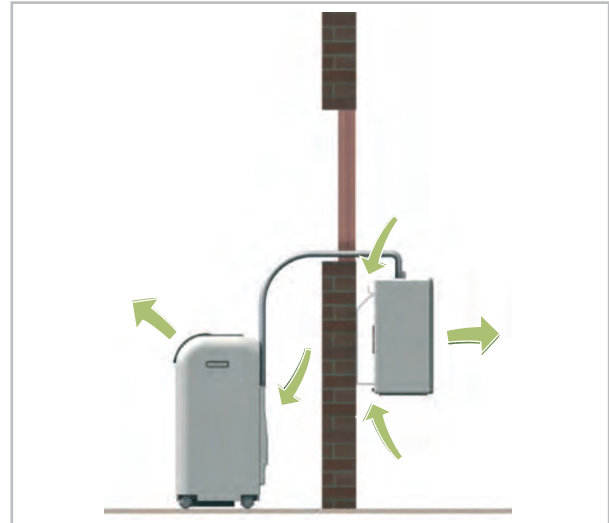
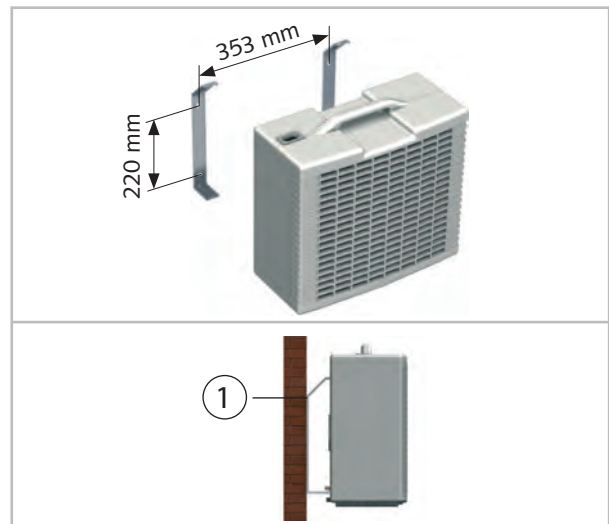

Fig. 8: Required air circulation
Fig. 9: Gaps assembly bracket
- Hook the outdoor unit into the wall bracket and secure it with the supplied M4 bolts (Fig. 8 and Fig. 9).